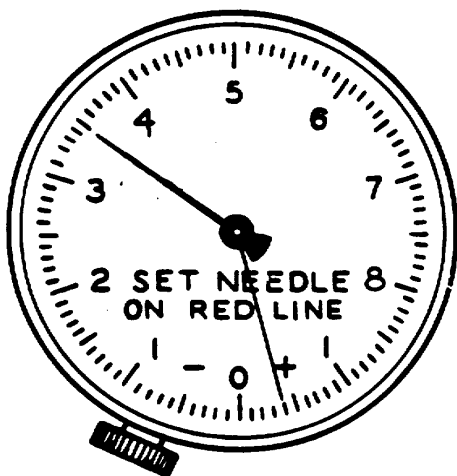

FIGURE 36
- (2) Retract stone by turning Feed Dial counterclockwise to end of range. Adjust oil line to direct oil down into drain pan. Apply honing oil sparingly to the stone, using brush or finger. Slide truing sleeve onto honing unit and depress Pedal.
- (3) Advance Feed Dial until Honing Dial needle reads 3 or 4 (Figure 36). Release Pedal. Start motor, and while stroking truing sleeve forward and back on the mandrel, depress Pedal slowly until crank arm hits stop pin. Overstroke each end of the stone by 1/3 to 1/2 the length of the truing sleeve. Stone surface must be overstroked by same amount on each end. Reverse truing sleeve frequently. Always release Pedal to stop rotation of honing unit before removing the truing sleeve.
- (4) Whenever Honing Dial needle drops to zero, release Pedal and advance Feed Dial 3 or 4 numbers. If the Honing Dial needle does not move during the truing operation, increase the cutting pressure by one-half number. If the needle moves too fast, or if the honing torque is too great, decrease the cutting pressure by one-half number. Truing process is complete when stone and guide shoes are radiused and show contact over their full length. Shoes do not have to show contact across their full width.